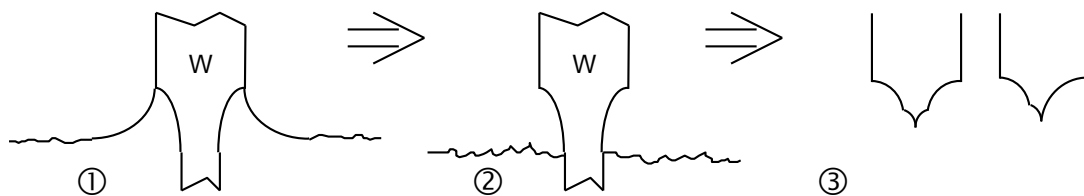

Figure 6. Meniscus slides down.
With time the solution level may decrease and lead to the formation of a second meniscus, see figure 6. However, tips as shown in situation ③ may still be used for STM imaging.